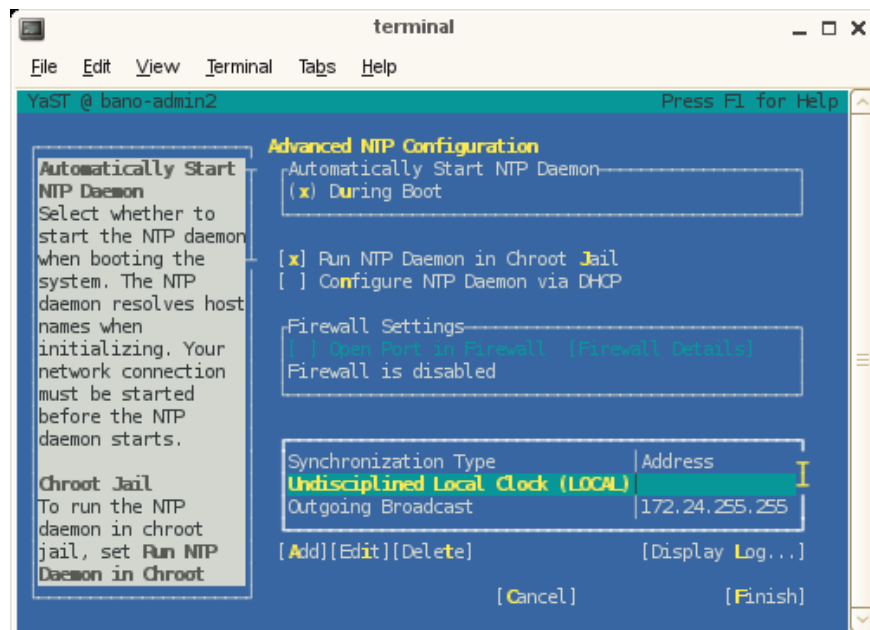

Figure 2-23 Advanced NTP Configuration Screen
14. Configure NTP time service as shown in Figure 2-23 on page 66. Click **Next** to continue.